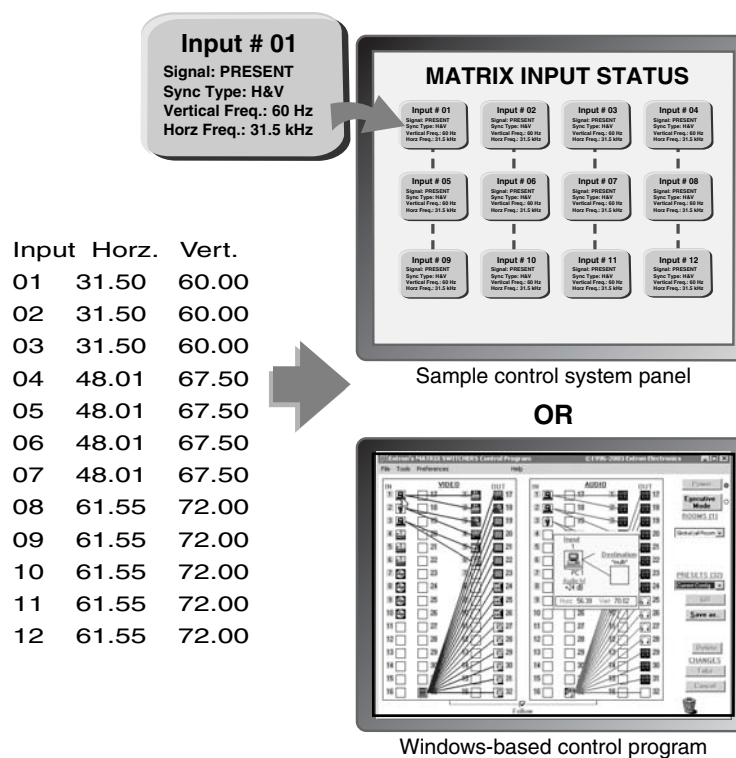

Figure 1-2 — DSVP data display
Digital Sync Validation Processing (DSVP™) (CrossPoint 450 Plus Sync BMEs) — In critical environments or unmanned, remote locations, it may be vital to know that sources are active and switching. Extron's DSVP confirms that input sources are active by scanning all sync inputs for active signals. DSVP provides instantaneous frequency feedback for composite sync or separate horizontal and vertical sync signals via the switcher's RS-232/RS-422 or Ethernet port. The frequency information can be displayed on any control system or in a Windows®-based control program on a local-area network (LAN) or Internet (IP) connection (figure 1-2).